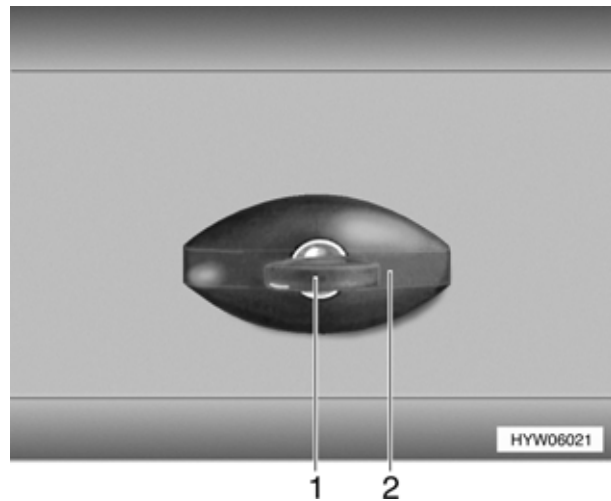

Fig. 33 Flap lock (variant 3), locked
- ▷ During rain, water can penetrate the opened flap lock. Therefore close the lock handle (Fig. 33,2) as shown in Fig. 33.
- Insert key into locking cylinder (Fig. 33,1) and turn a quarter turn in an anticlockwise direction. The lock handle (Fig. 33,2) snaps out.